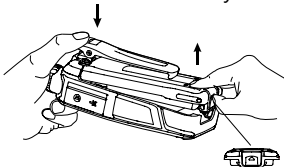

Figure 3
1. Please turn off the radio first. Then hold the top of radio unit and press the belt clip to make its bottom up. Lift the battery latch, as shown in figure 3.